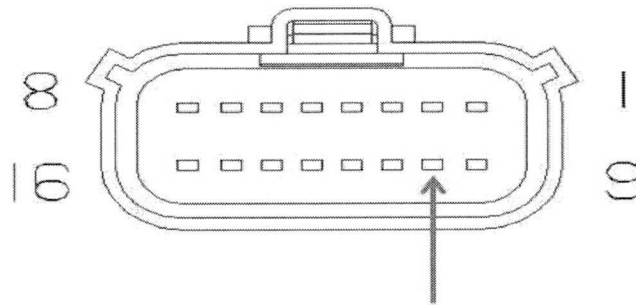
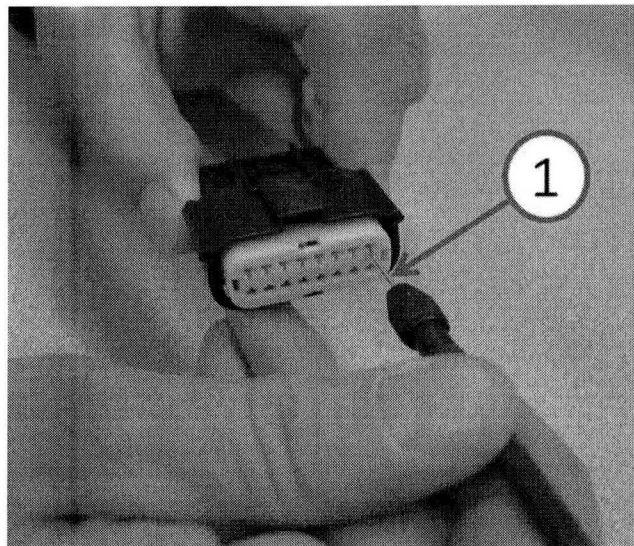

Fig. 4 TERMINAL 10 IS A GOLD TERMINAL
Fig. 5 INSERT TOOL IN SERVICE PORT ADJACENT TO THE TERMINAL TO BE REPLACED
15. Starting with terminal #10 (Fig. 4), push the wire into the connector from the back, and while keeping the tool or drill at 90° angle to the face of the TPA, push the tool or drill in until it releases the lock finger in the connector as shown in (Fig. 5). At this point the wire should pull out the back. As the terminal is removed; note the orientation of the terminal in the connector for ease of installation later.